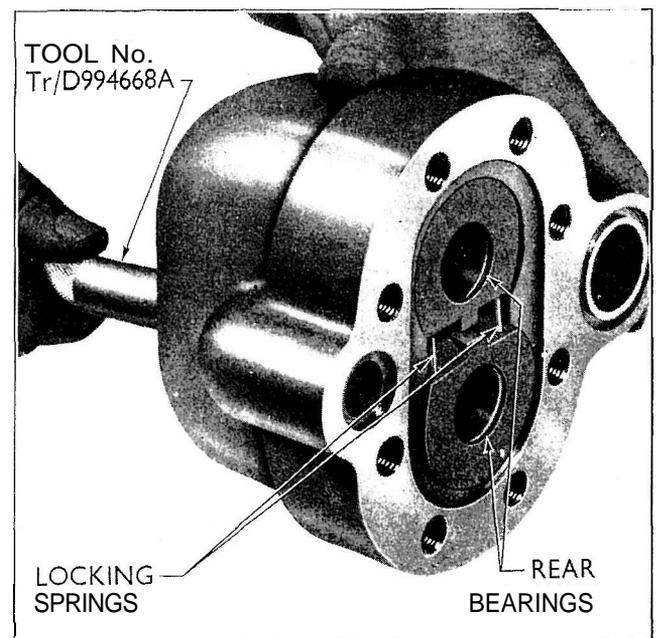

Fig. 203
- 8 Remove the rear bearings by pushing the drive bearing approximately $\frac{1}{4}$ in. towards the front of the body (see Fig. 203), using the bearing remover (tool No. Tr/D 994668-A), so that both bearings are unlocked and may be extracted from the body and the bearings and springs separated.